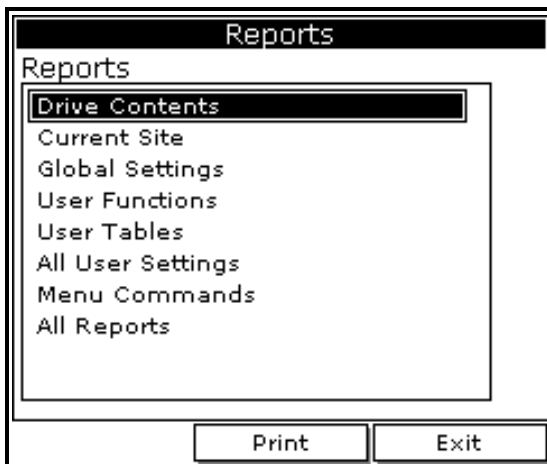

Figure 59: Reports Window
3. Use the arrow keys to scroll to **Reports** and press [ENTER]. A screen similar to Figure 59 appears.